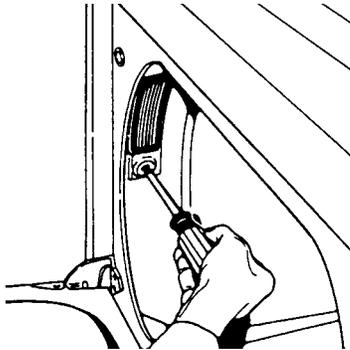

Fig. 17
1. Open dryer door. Remove the drum lamp cover screws. (Fig. 17)